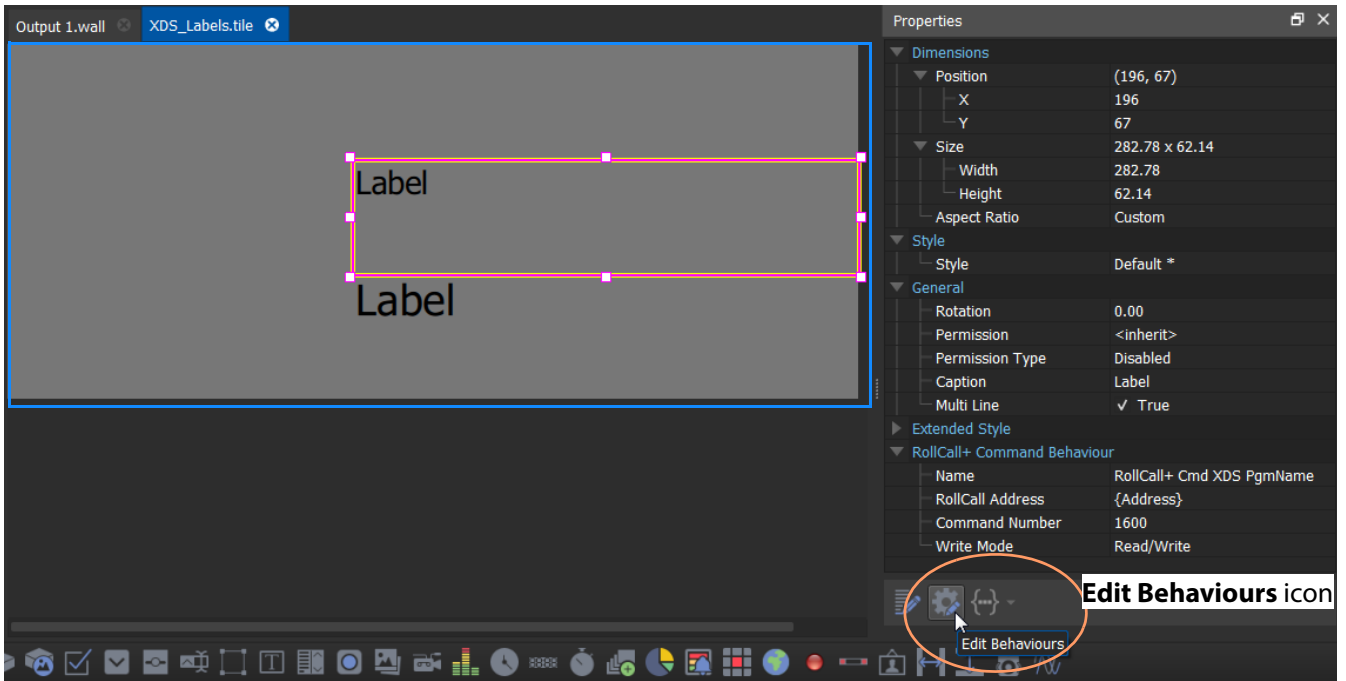

Fig. 7-1: 'XDS Labels' on New Tile
- 4 Select one **Label** and click the **Edit Behaviours** icon (see Figure 7-1) to open the 'Behaviours and Bindings' graphical editor.